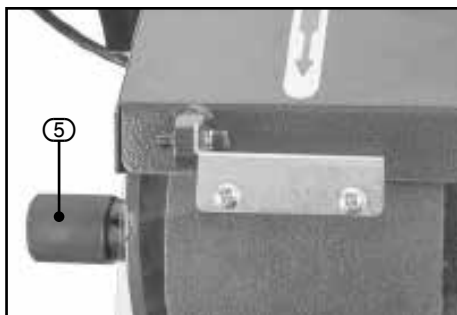

FIG.9
9.2 ADJUSTING BELT TRACKING – FIGS.9 - 10